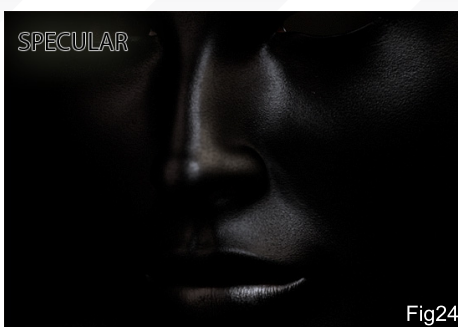

Fig24
**Specular** – I rendered this pass by turning off all the colour maps and setting the diffuse to black (yep, using the built in pass rendering doesn't seem to like working with the SSS materials). I used this pass to control the level of highlights at different parts of the image (Fig24).